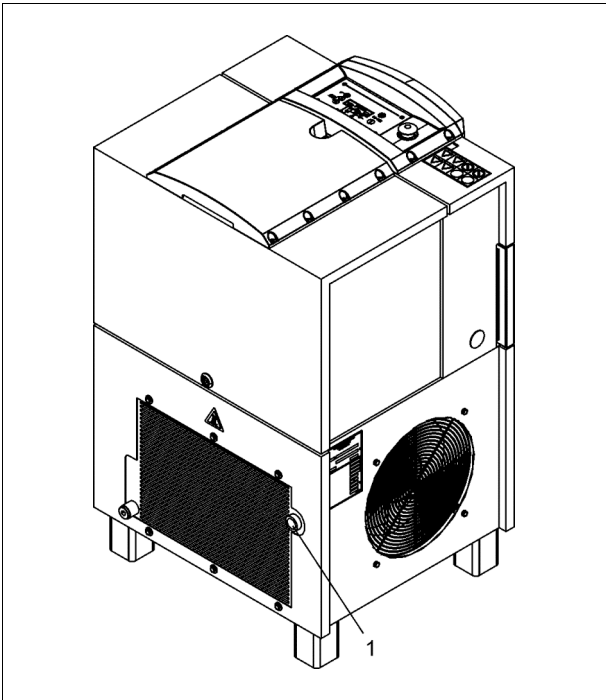

Fig. 9
The compressed air line system is connected at the compressed air supply of the screw compressor (- 1 - Fig. 9).
***When connecting the compressor on the mains side to the compressed air system available at the customer's end, check the operating temperatures and operating pressures required and examine the required connecting flange or the connection thread for proper type, size and functioning (see Fig. 9).***